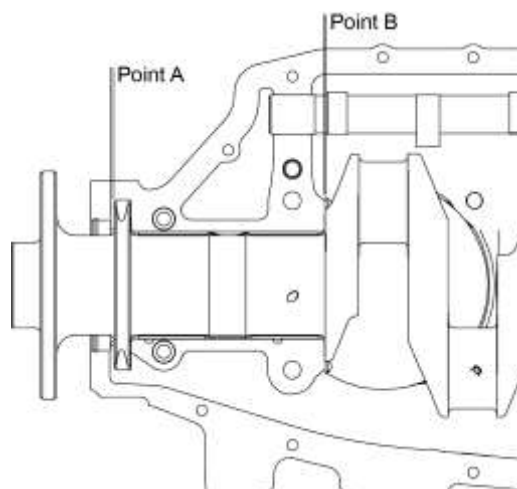

Figure 81
- (1) With the crankshaft installed in the crankcase, move the crankshaft as far forward as possible.
- (2) Use a feeler gage to measure the slinger clearance at Point A (Figure 81). Refer to the limits in Table 3. If the slinger clearance is not within the limits in Table 3, the front face of the slinger can be reground to restore the slinger clearance to within allowable limits.
- (3) Move the crankshaft to the rear as far as possible.
- (4) Use a feeler gage to measure the end play clearance with the crankcase thrust at Point B in Figure 81. Refer to the limits in Table 4. If the end play clearance is not within the limits in Table 4, examine the crankcase and/or crankshaft for wear or damage. Replace a worn or damaged component.
(Figure 81)